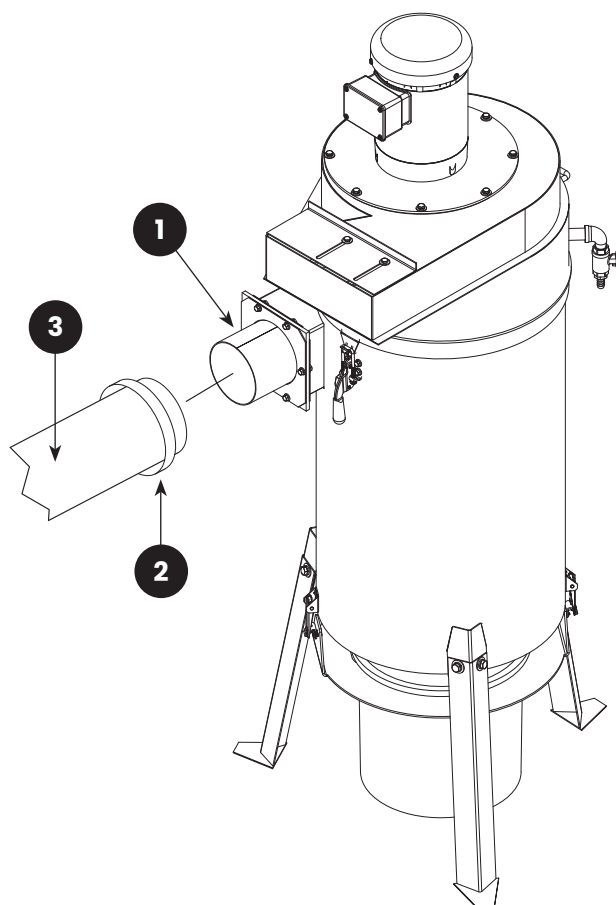

FIGURE 2: (1) DCU Air Inlet; (2) Hose Clamp; (3) Flexhose from Reclaim Outlet
2.0.2 | Refer to **Figure 2** and place the collector so the inlet flex hose has as few bends as possible. Determine the best location and position of all units before making the final assembly. Doing so will ensure there are no placement issues during maintenance.
2.2.1 | **Figure 2** shows typical arrangements and call outs when the dust collector is connected to a blast cabinet reclaimer.
2.3.1 | Refer to **Figure 2** when connecting flex hose to a reclaimer, and connect the hose between the reclaimer and dust collector inlet pipe.